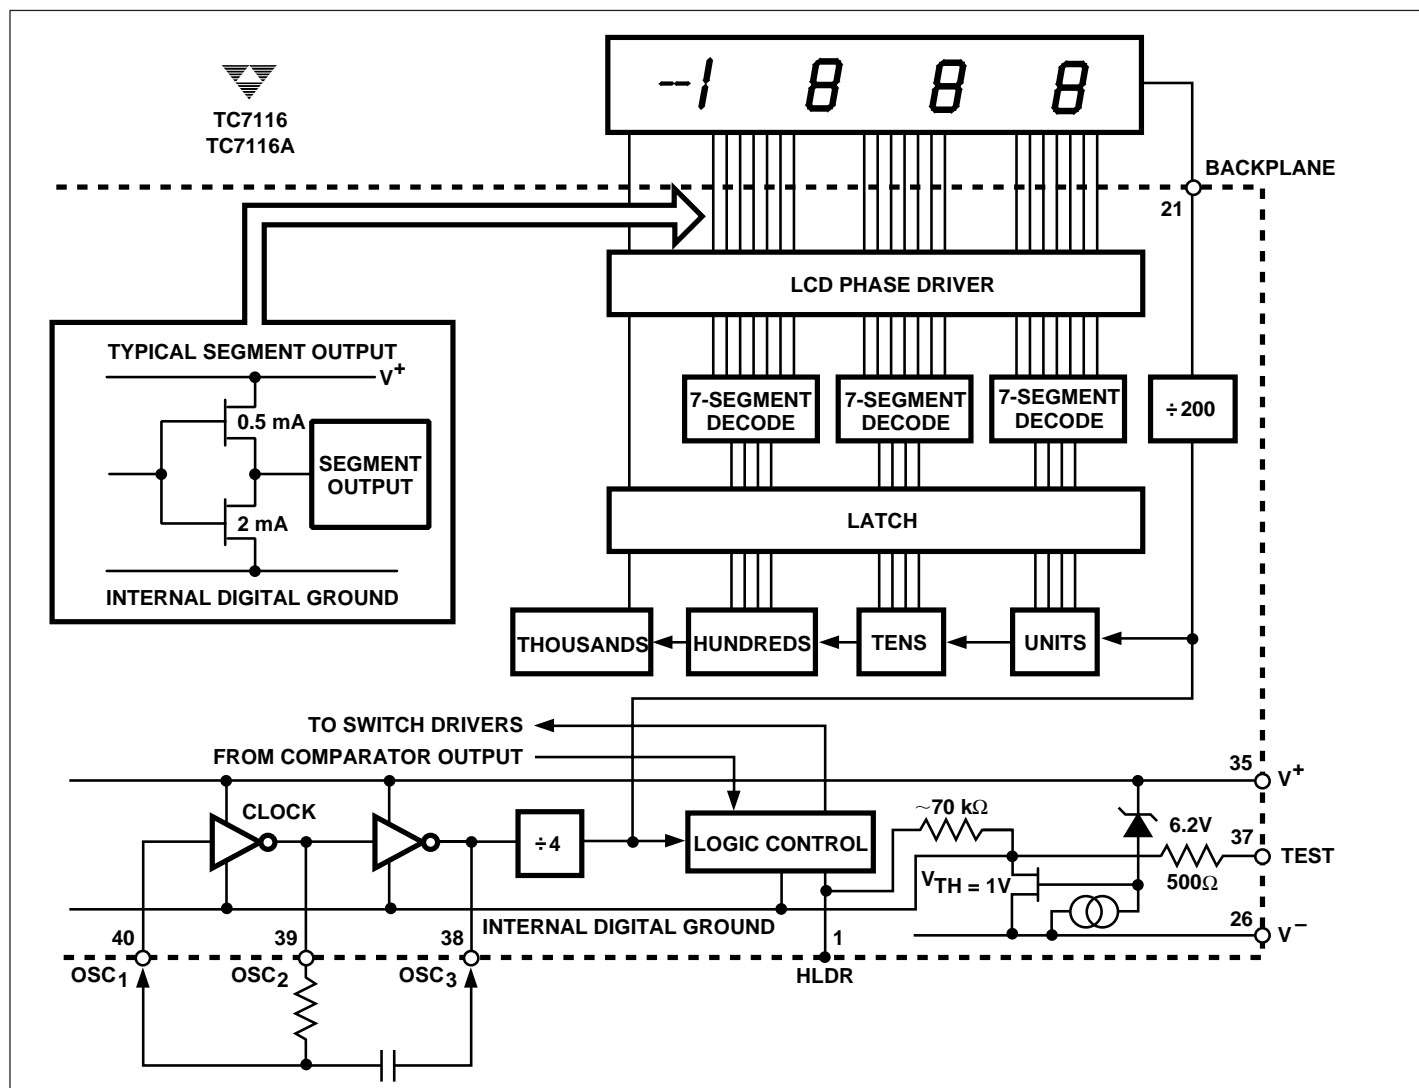

Figure 8. TC7116/TC7116A Digital Section
Figures 8 and 9 show the digital section for TC7116/TC7116A and TC7117/TC7117A, respectively. For the TC7116/TC7116A (Figure 8), an internal digital ground is generated from a 6V zener diode and a large P-channel source follower. This supply is made stiff to absorb the relative large capacitive currents when the backplane (BP)